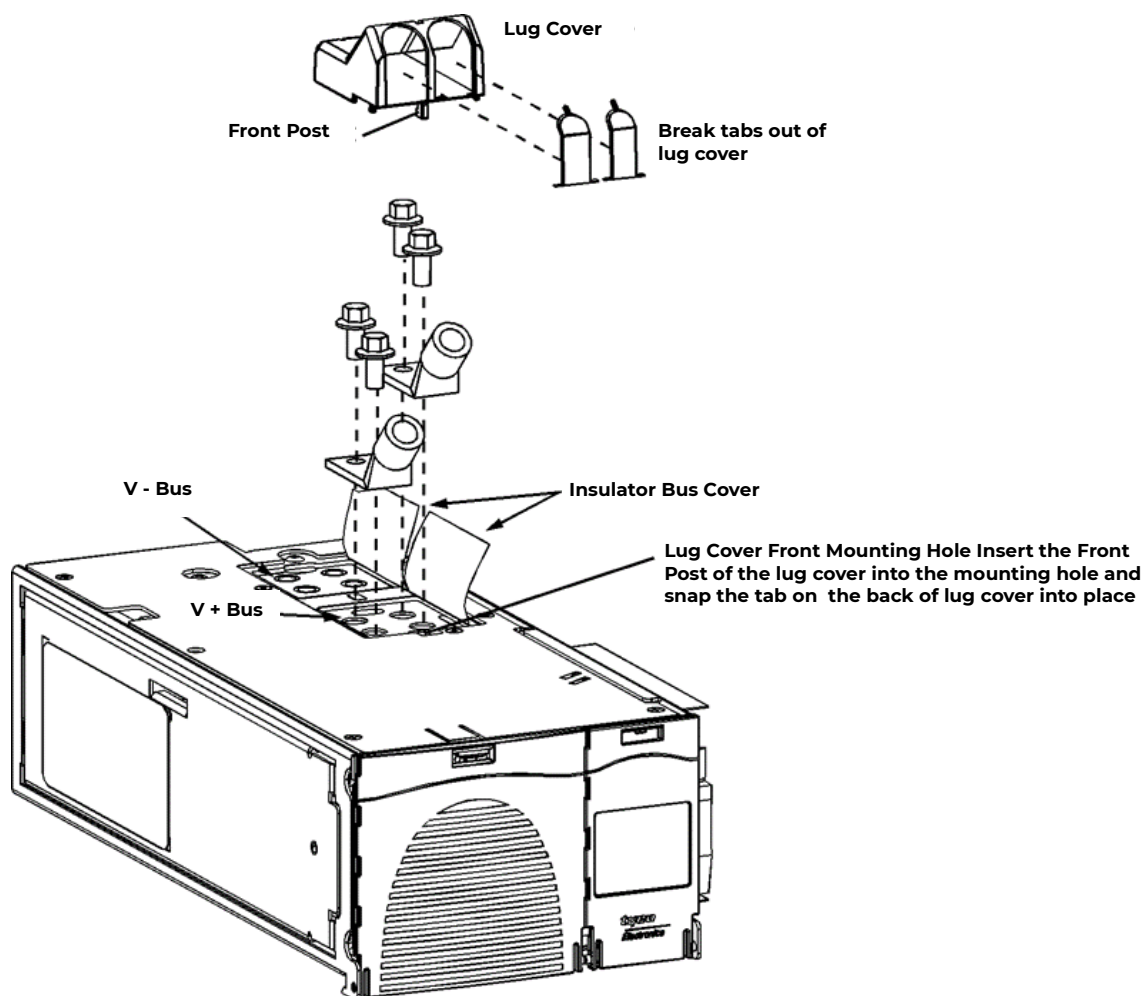

Figure 5-25: Direct Connection to V+ (shown) / V- Output Bus
**Warning:** Cables terminated directly to the DC output bus in Figure 5-25 are unfused. Ensure cables ends are protected before terminating cables.
2.	Break tabs off back of lug cover (see Figure 5-25).